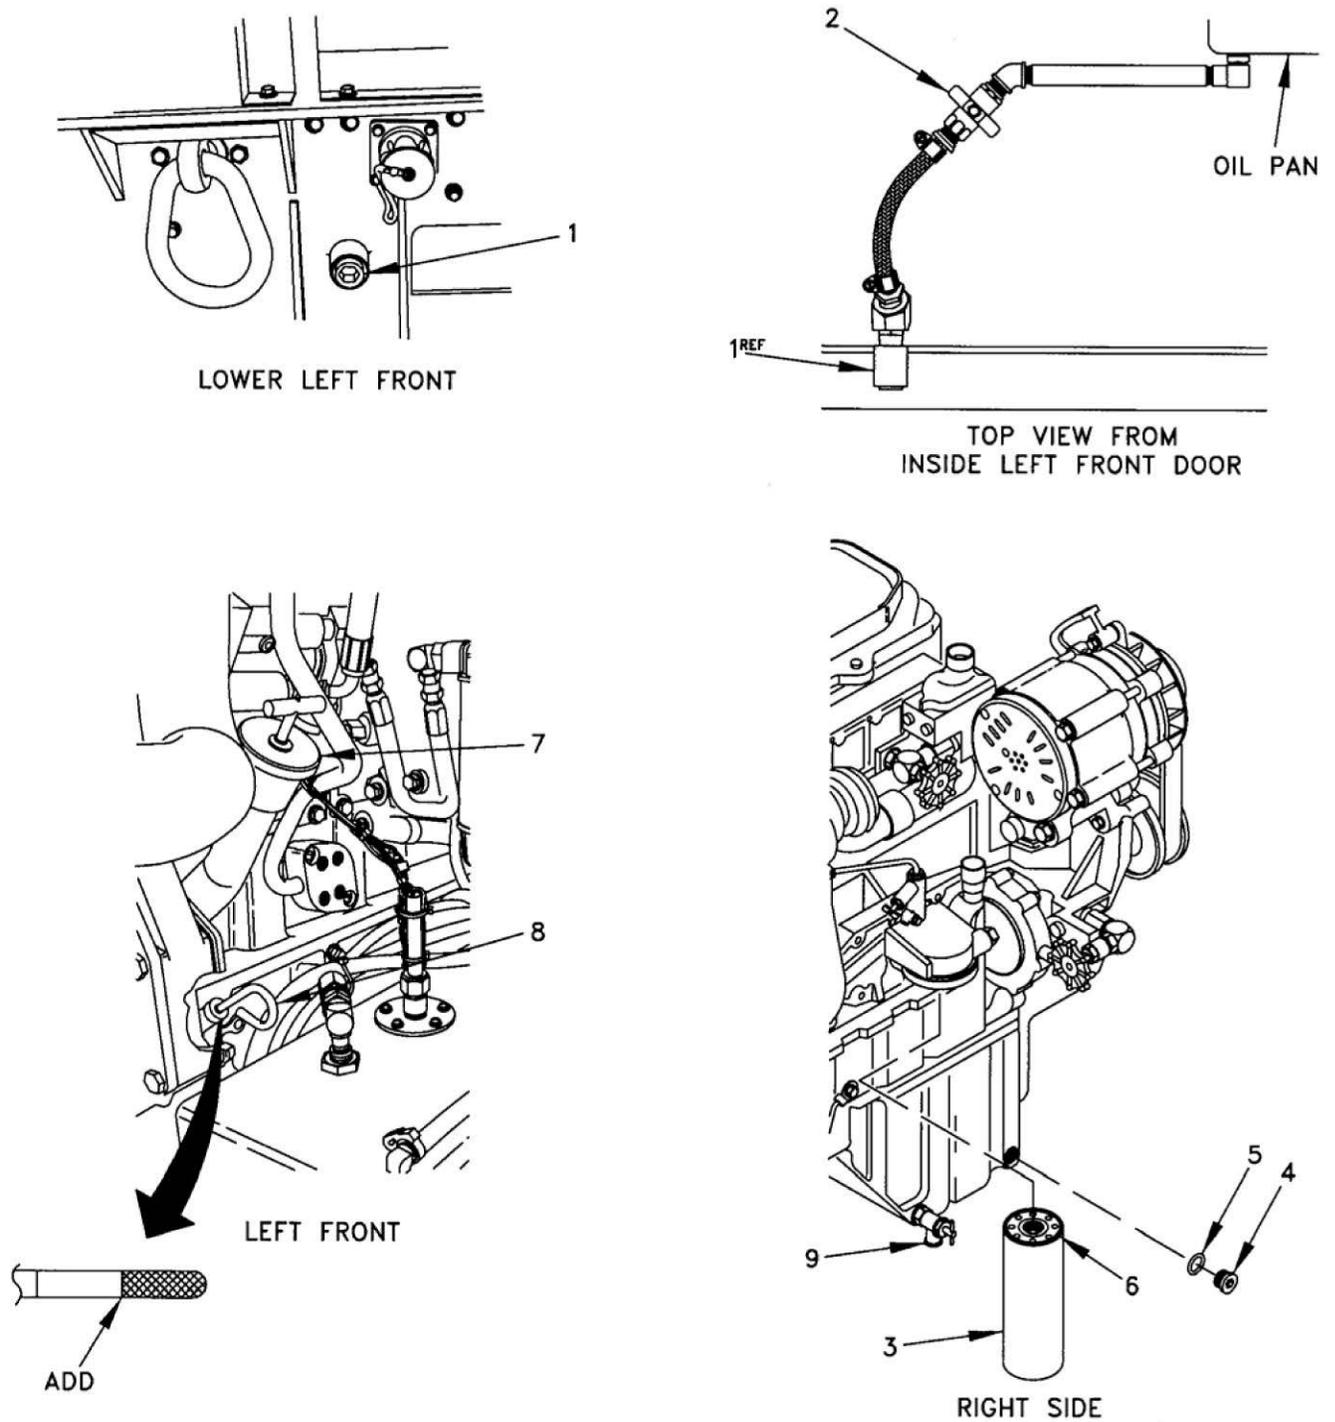

Figure 1. Oil Filter Maintenance and Oil Change.
5. Remove plug (Figure 1, Item 1) from oil drain.
6. Open oil drain valve (Figure 1, Item 2) at lower left side of oil pan and allow oil to drain from system.
7. Remove oil filter (Figure 1, Item 3) using strap wrench if necessary.
8. Remove magnetic plug (Figure 1, Item 4) and preformed packing (Figure 1, Item 5) from lower right side of oil pan, opposite drain valve (Figure 1, Item 2). Inspect magnetic plug for metal particles. If metal particles are present, notify supervisor. Wipe off plug.
2. Install preformed packing (Figure 1, Item 5) and magnetic plug (Figure 1, Item 4).
3. Apply thin coat of lubricating oil to rubber seal (Figure 1, Item 6) on oil filter (Figure 1, Item 3).
4. Install oil filter (Figure 1, Item 3) by hand until seal (Figure 1, Item 6) contacts base, then tighten by hand  $\frac{3}{4}$  turn more.
5. Close oil drain valve (Figure 1, Item 2).
6. Remove oil filler cap (Figure 1, Item 7) on left front of engine. Refill system with oil (see WP 0015, Table 3. Engine Oil). Install oil filler cap (Figure 1, Item 7).
7. Check dipstick (Figure 1, Item 8) for correct oil level.
12. Check dipstick (Figure 1, Item 8) for correct oil level.
4. Open oil drain valve (Figure 1, Item 9) on right side of engine below oil filter, collect oil sample, and close drain valve.